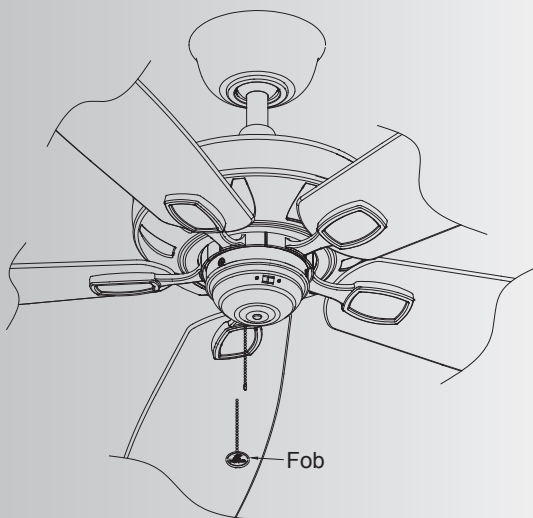

Fig. 20
Step 1. Attach the decorative pull chain fob to the chain coming out of the switch cover. Refer to Fig. 20.